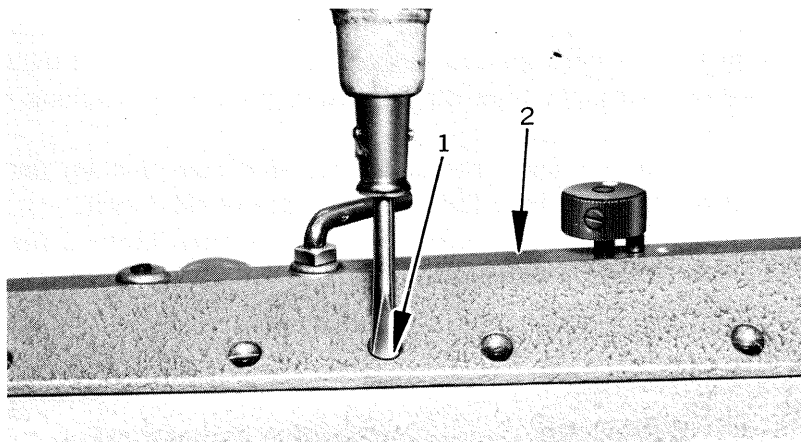

Fig. 10
ADJUSTMENT OF THE PRESSURE ON GOODS (Fig. 10)
1. Remove the top cover (2, Fig. 10)